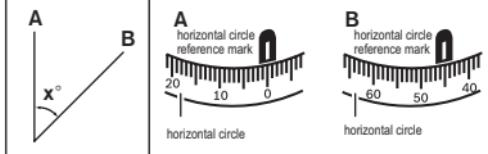

fig.7
- Shoot the instrument toward A, rotate the horizontal circle 2 with "0" point toward the reference mark 3. (see fig.7)
- Shoot the instrument toward B, read off the angle value at the reference mark 3 of horizontal circle. (see fig.7)